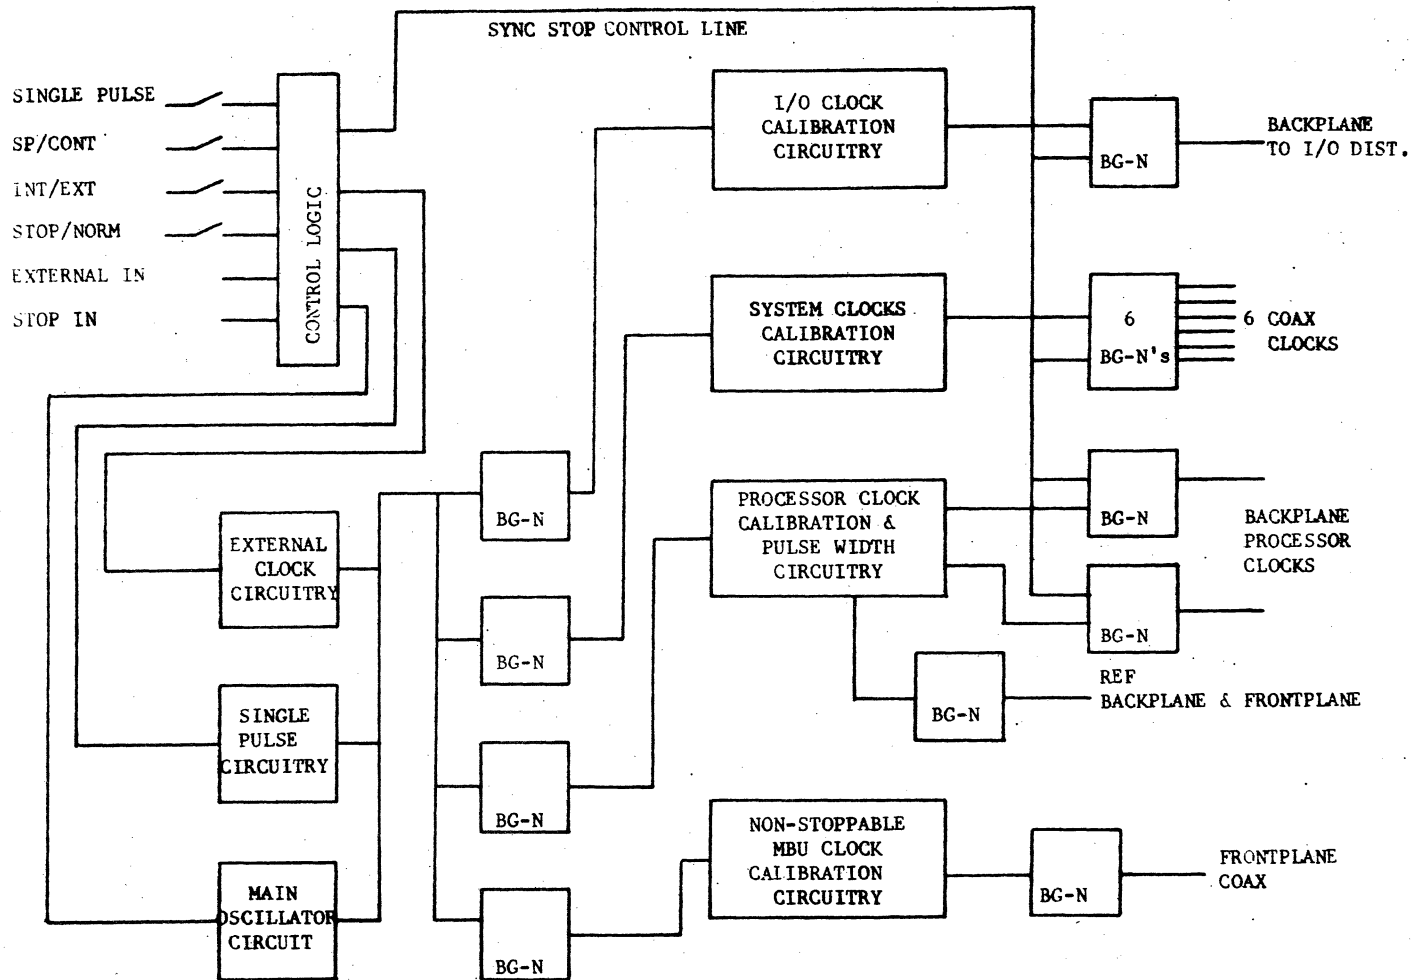

FIGURE 6 1820 CLOCK DISTRIBUTION
6.8.2 The Distribution Scheme. See Figure 6. The logical OR of the Single Pulse output, the External Clock and the main clock is sent to four BG-N buffers which in turn drive the calibration and reference delay lines. The first buffer supplies an I/O Clock to the backplane which is received by the I/O Distribution Card and conditioned as needed before distribution to the I/O controls. The second network supplies 6 clocks by means of coax for use in the MBU, port interchange and other such activities requiring clock signals. The third net provides two backplane clocks for use by the processor. The fourth net provides an MBU coax clock that can not be stopped by the Stop Input.